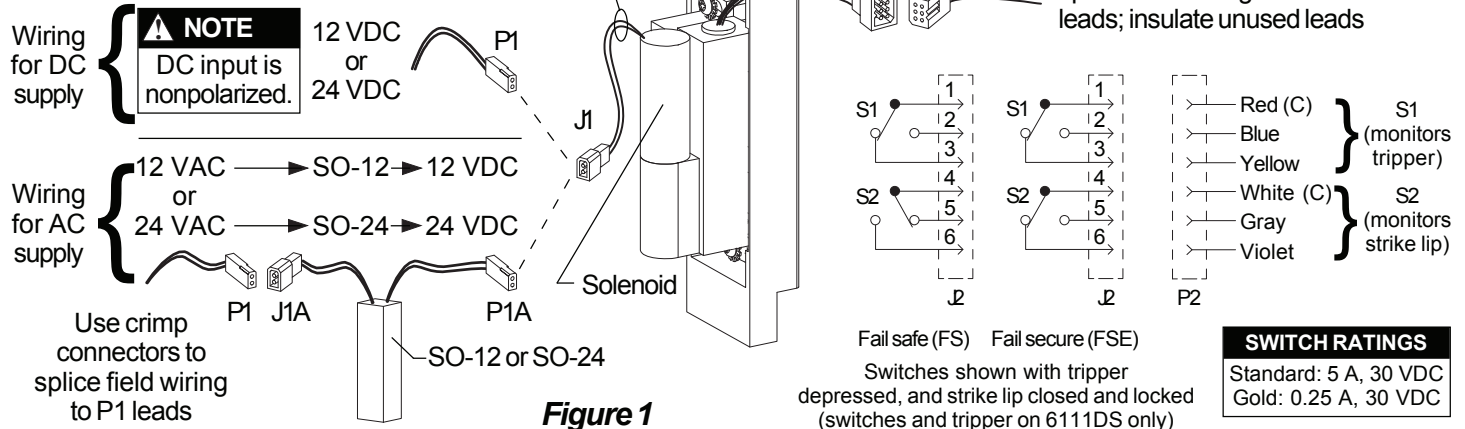

Figure 1
- 3 Wire strike (Figure 1). (Switches on 6111DS only.)
- 4 Test strike: Apply solenoid power. Fail secure (FSE) lip unlocks. Fail safe (FS) lip locks. Figure 1 shows status of switches.